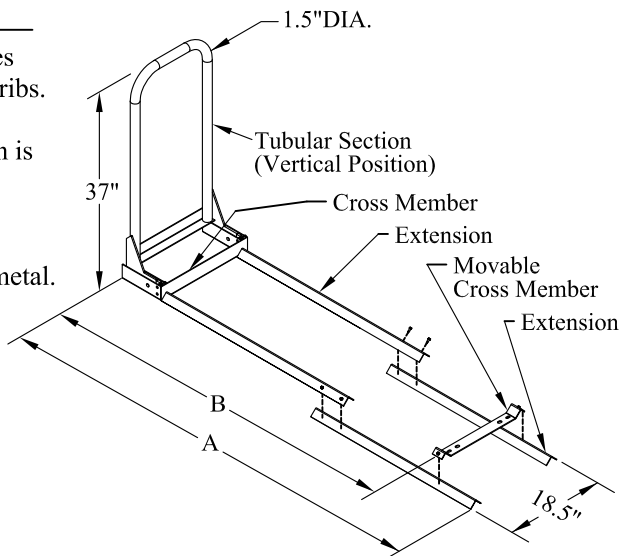

Figure 3: Tire rack in unfolded position.
1. **Arrange** the tire rack and extensions on the platform so that the A dimension is at least 1" narrower than the platform flat loading surface (Figure 3).
4. **Position** the movable cross member at the B location so that it is centered between platform ribs, if possible (Figure 3, Table 1). Align cross member holes with existing holes in the Tommy Traction surface, if applicable.